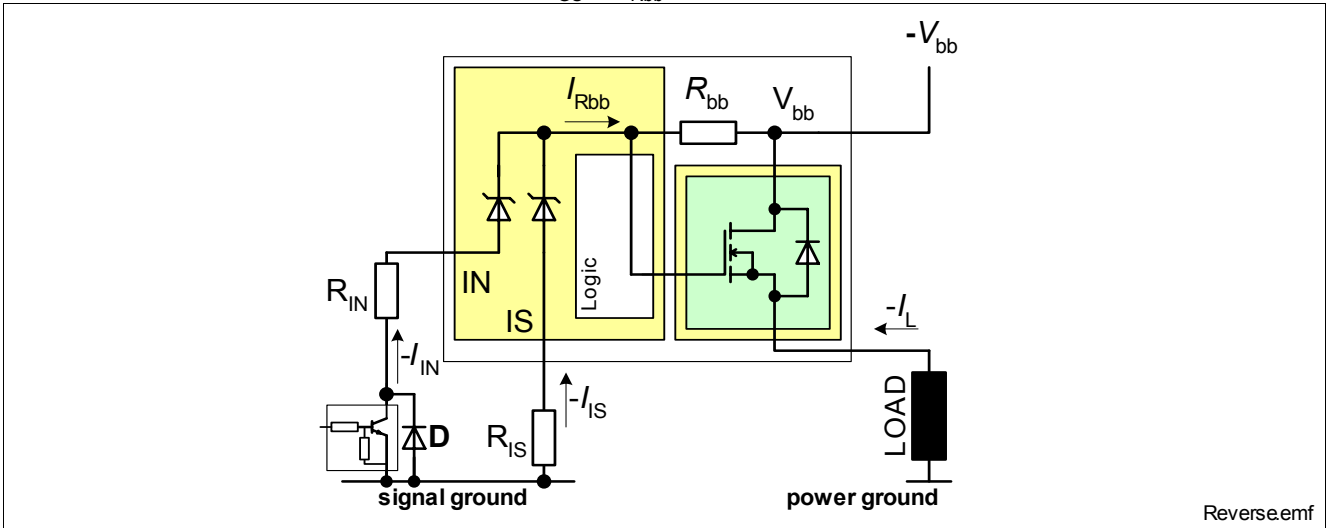

Figure 14 Reverse battery protection
- 4) Slew rate limitation can be achieved by means of using a series resistor for the small signal driver or in series in the input path. A series resistor R_{IN} in the input path is also required for reverse operation at $V_{bb} \leq -16\text{V}$. See also Figure 14.
The device can not block a current flow in reverse polarity condition. In order to minimize power dissipation, the device offers Reversave™ functionality. In reverse polarity condition the channel will be switched on provided a sufficient gate to source voltage is generated $V_{GS} \approx V_{Rbb}$. Please refer to **Figure 14** for details.